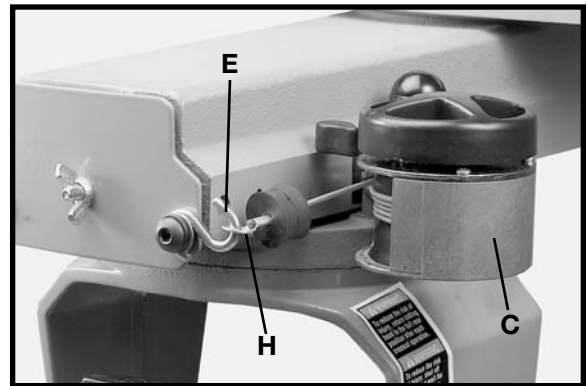

Fig. 30
5. Attach eyelet (H) Fig. 30, of cable assembly (C) to "S" bracket (E) as shown.